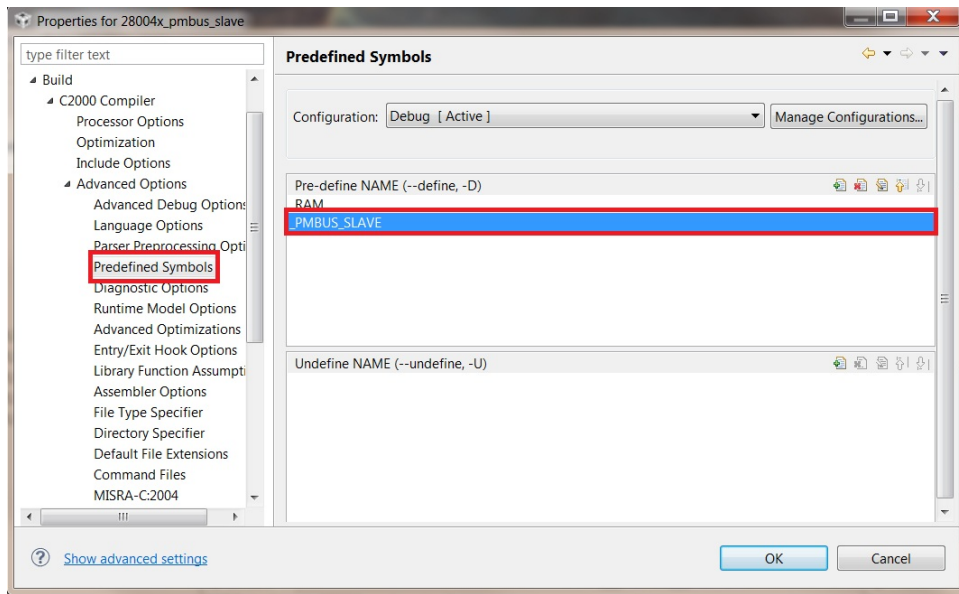

Figure 4.5: Compiler Predefined Symbols
3. For the slave device, define `_PMBUS_SLAVE` in the *Predefined Symbols* option under the C2000 Compiler menu, Fig. 4.5.